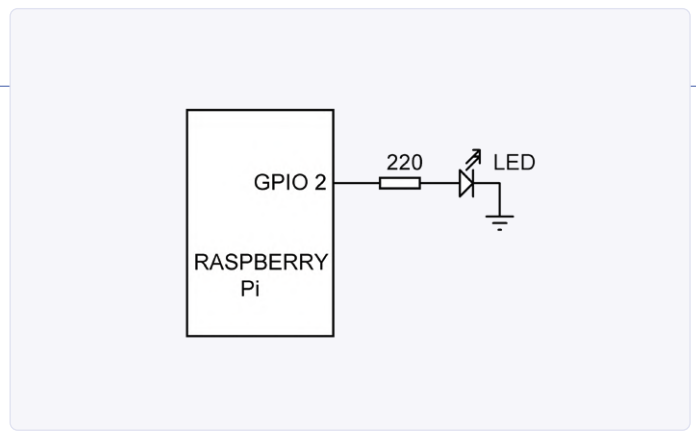
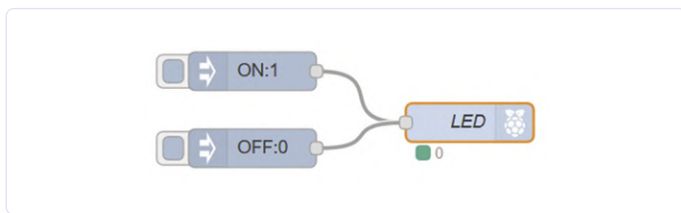

Figure 4: Circuit diagram of the example.
Figure 5: Flow diagram of the example.
Perhaps the easiest way to understand how to use the Node-RED is to look at a simple example. In this example, an LED is connected to GPIO 2 of the Raspberry Pi through a 220-ohm current limiting resistor as shown in **Figure 4**. In this simple project we will be controlling the LED from a Node-RED flow program. The steps are as follows (see flow program in **Figure 5**):
- Click, drag and drop another *inject* node as shown in Figure 5 and set its *Payload* to 0 and its *Topic* to OFF. Clicking this node will output 0 to turn OFF the LED.
- Click, drag and drop an *rpi gpio out* node to the workspace. This node is used to send digital or PWM data to a GPIO port of the Raspberry Pi. Connect the node as shown in Figure 5.